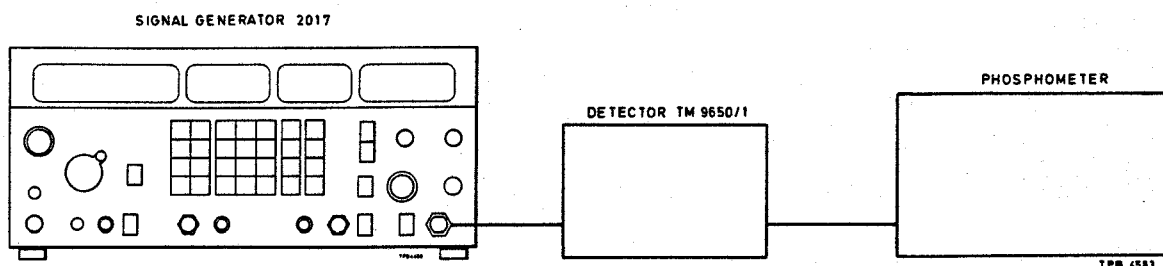

Fig. 11 Test gear arrangement for checking spurious a.m. on c.w.
(1) Connect the test equipment as shown below in Fig. 11.